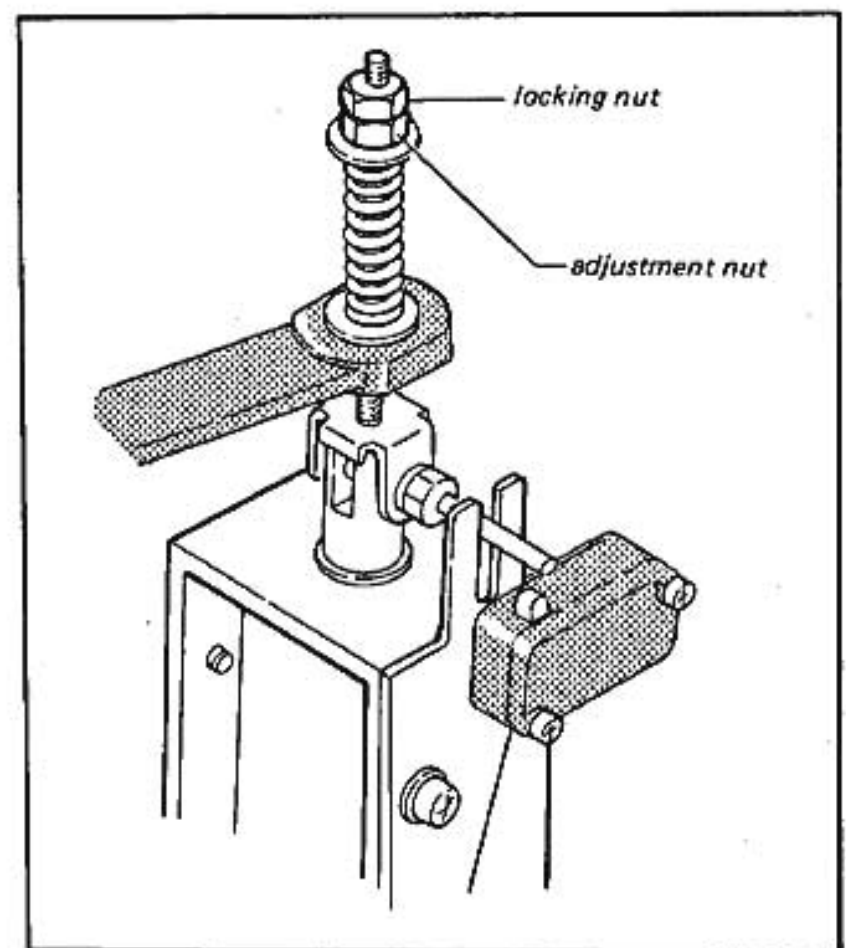

Fig. 6-6 Location of the locking & adjustment nuts.
- 2) With the pinch roller being in contact with the capstan, slowly pull the spring scale in the direction shown by the arrow. Check the moment the pinch roller stops rotating and adjust the adjusting nut (See Fig. 6-6) for the pinch roller solenoid for a spring scale reading between 1.3 kg to 1.5 kg.